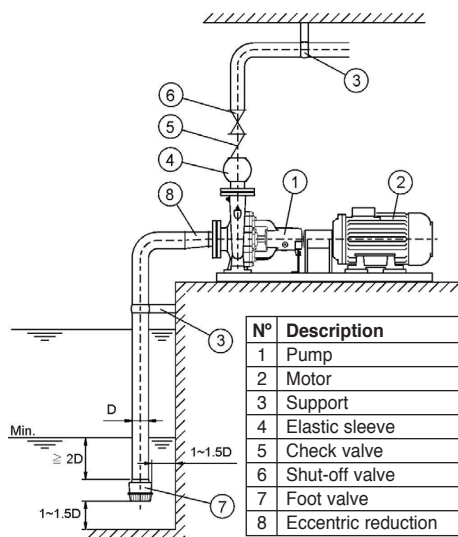

Fig. 1
(5) Installations with suction lift (see Fig. 1):